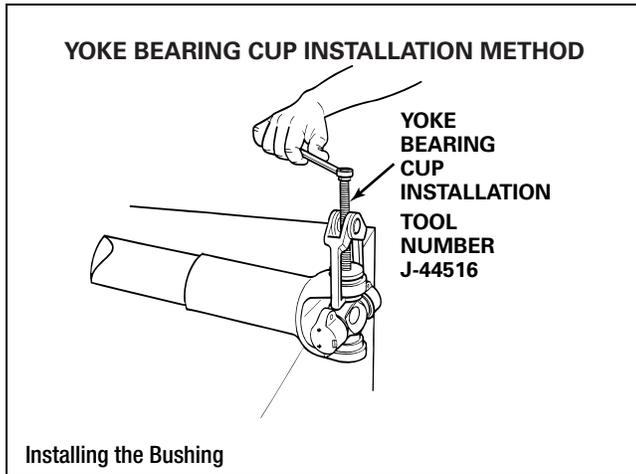
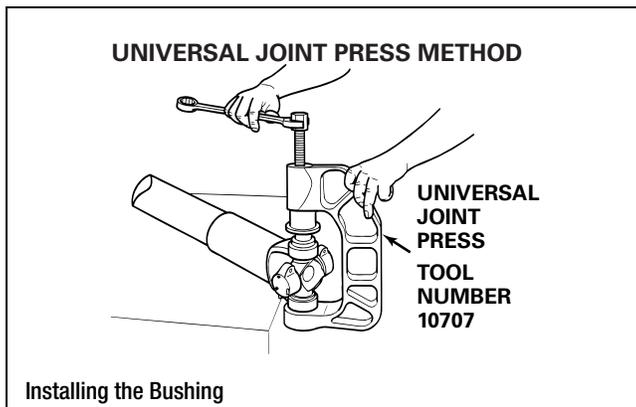
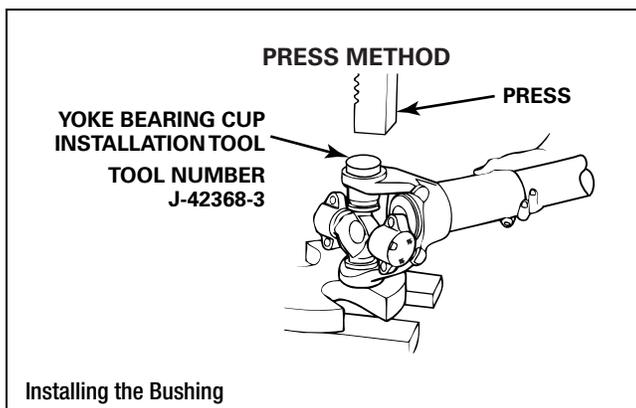

Figure 4.33
Figure 4.34
Figure 4.35
5. Use a press, yoke bearing cup installation tool (SPX Kent-Moore tool number J-44516) or universal joint press (Tiger Tool number 10707) to install the first round bushing slightly past the snap ring groove. When the bearing cup installation tool contacts the yoke, it is installed correctly. Figure 4.33, Figure 4.34 and Figure 4.35.
8. Use a press, yoke bearing cup installation tool (SPX Kent-Moore tool number J-44516) or universal joint press (Tiger Tool number 10707) to install the second round bushing slightly past the snap ring groove. Check that the bushing is aligned with the universal joint. Figure 4.33, Figure 4.34 and Figure 4.35.